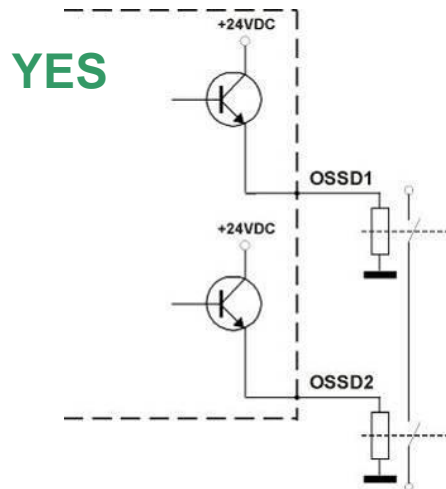

Fig. 18
- The OSSD1 and OSSD2 safety contacts cannot be connected in series or in parallel, but can be used separately (Fig.18). If one of these configurations is erroneously used, the device enters into the output failure condition (see chapter 7 “Diagnostic functions”).